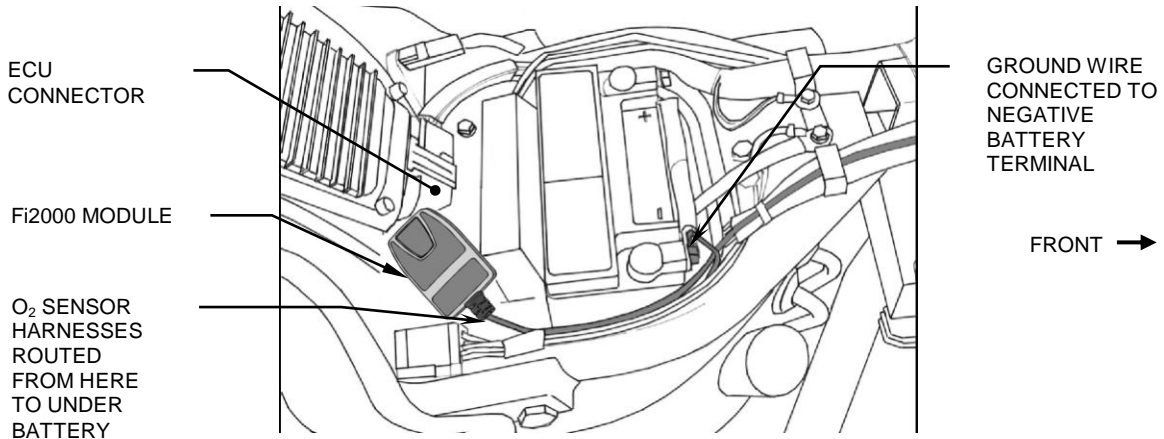

FIGURE 1
2. Lay the Fi2000 module in the area underneath the seat, do not attach it to the motorcycle, route the injector wire harness forward up the right side of the frame backbone, see Figure 1. Route the forward set of connectors under the upper motor mount.
10. Reinstall the battery, attach the black wire to the negative post of the battery, see Figure 1.
12. Remove the backing from the Velcro and attach the Fi2000 as shown in Figure 1.